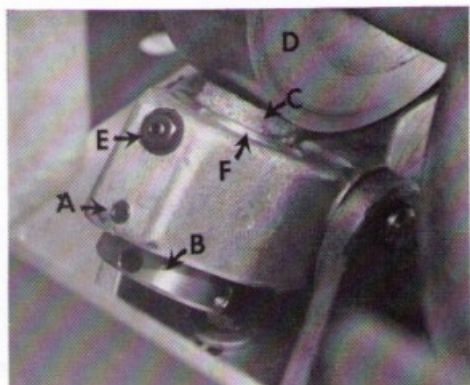

Figure 7
**TO RELEASE BRAKE** for a "FREE SPINDLE" turn brake switch to "OFF" as shown on Page 13. The brake drum "D", Figure 7, is located directly on the main motor drive shaft. The brake is actuated by a solenoid located under cover "A", Figure 8, Page 17 and is accessible from rear of machine by removing motor ventilator screen.